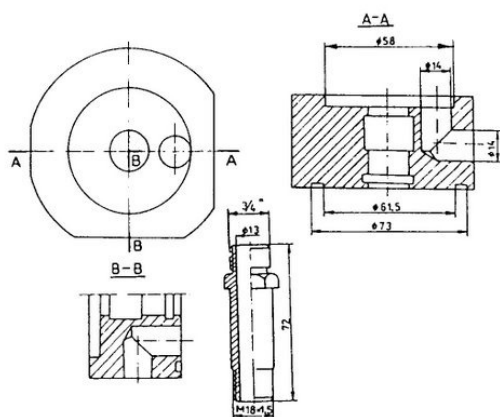

Fig. 66. Special washer for an oil filter (oil cooler connection in a brake stand)
- Connect an engine lubrication system with an oil cooler using a special washer (Fig. 66) which should be placed under an oil filter PP8.7.2,